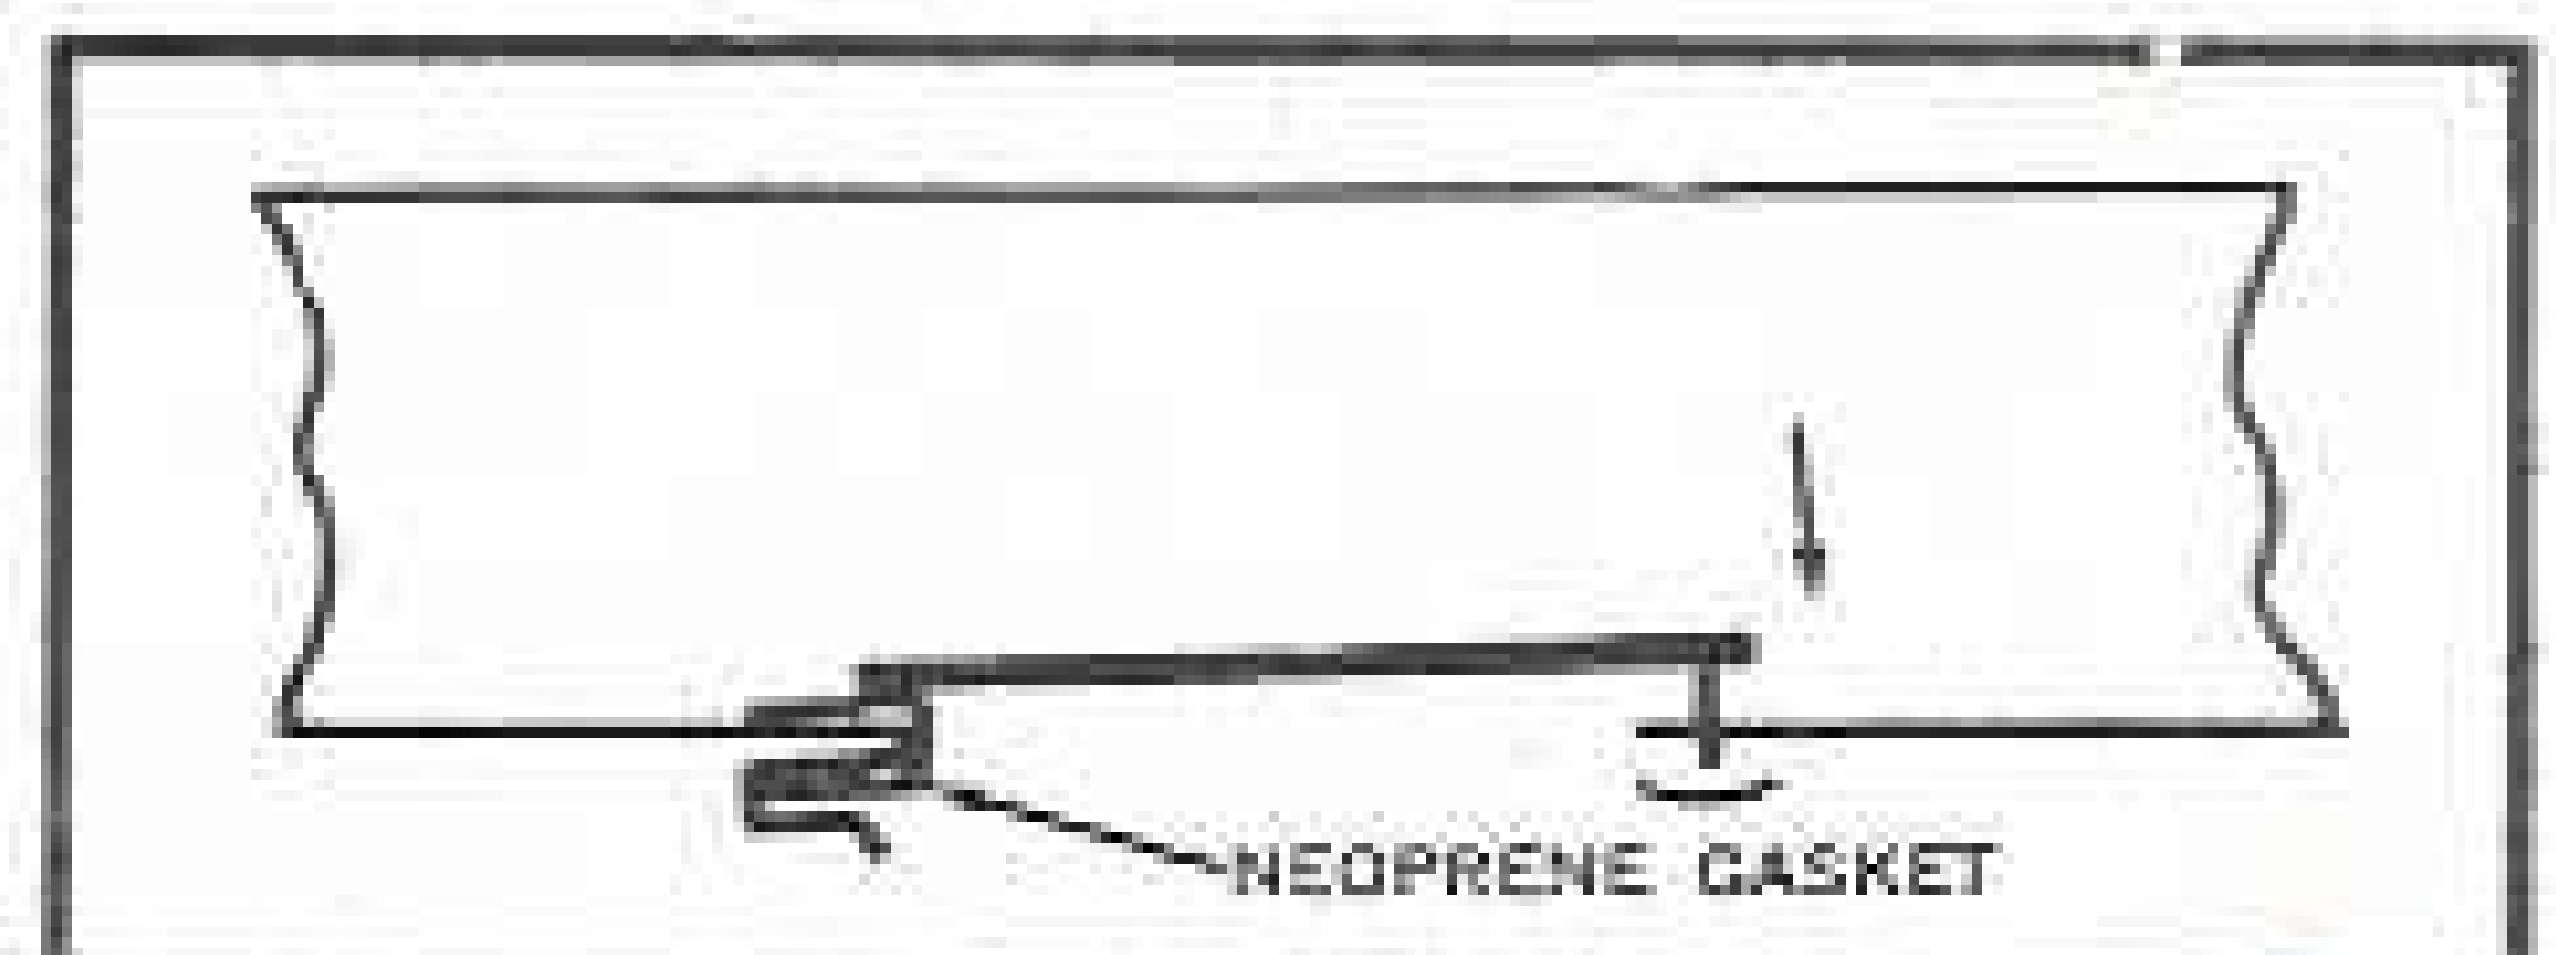

FIG. 3
As shown in Fig. 3, insert the metal frame into the opening, slide the mounting rail over one edge of the duct and lower it so that the (2) bolts protrude down through the holes that you drilled previously. Push or spin two speed nuts (included in parts bag) onto the two bolts and snug up. This insures that the frame will stay in place when the humidifier is raised into position.
Four lengths of special neoprene gasket material are provided. After frame is in place, fit each length of gasket material to the duct, flush with the edges of the opening. One long gasket is to be placed on the upper surface of the mounting frame channel. (See Figs. 3 and 4). Note that the gasket has a backing which covers pressure sensitive adhesive. Peel off this backing and place each length of gasket in position.